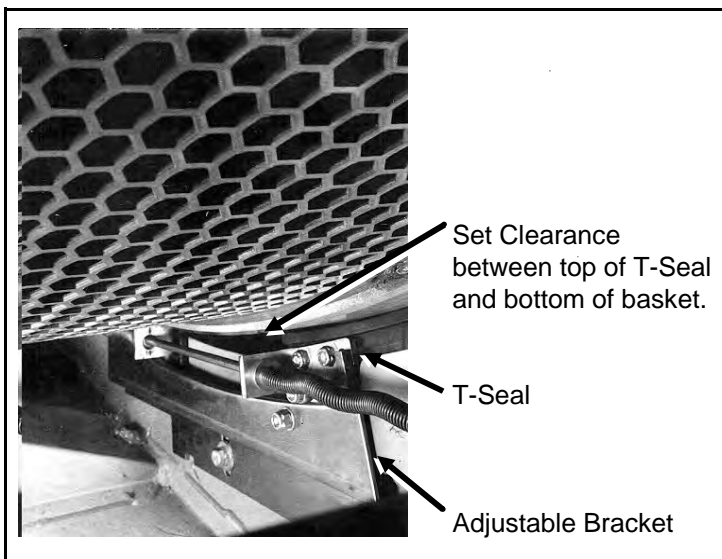

FIGURE 1 (MSSM0108AE)
1. Remove the side access panels to gain access to the T-Seal and bracket. See FIGURE 1.